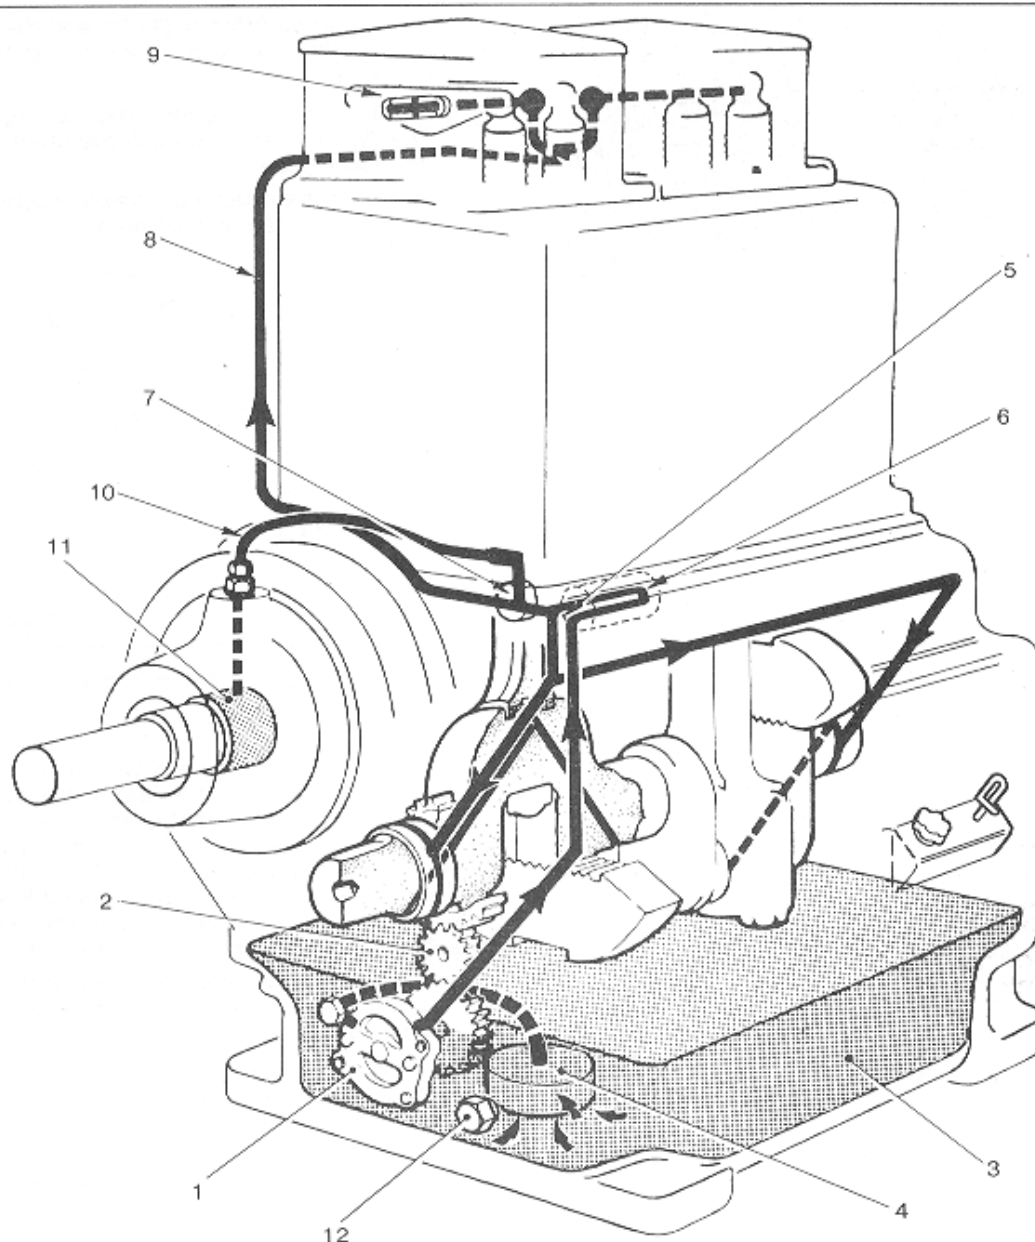

Figure 2.1 Rotary Pump Lubricating Oil System
2.2 The lubricating oil system using a rotary type pump is shown in Figure 2.1. The pump (1) is mounted at the gear end of the crankcase and is driven via an idler gear (2) by a gear fitted on the crankshaft. Lubricating oil is drawn from the sump (3) via a strainer (4) by the rotary oil pump (1). The oil is then pumped via an adjustable pressure relief